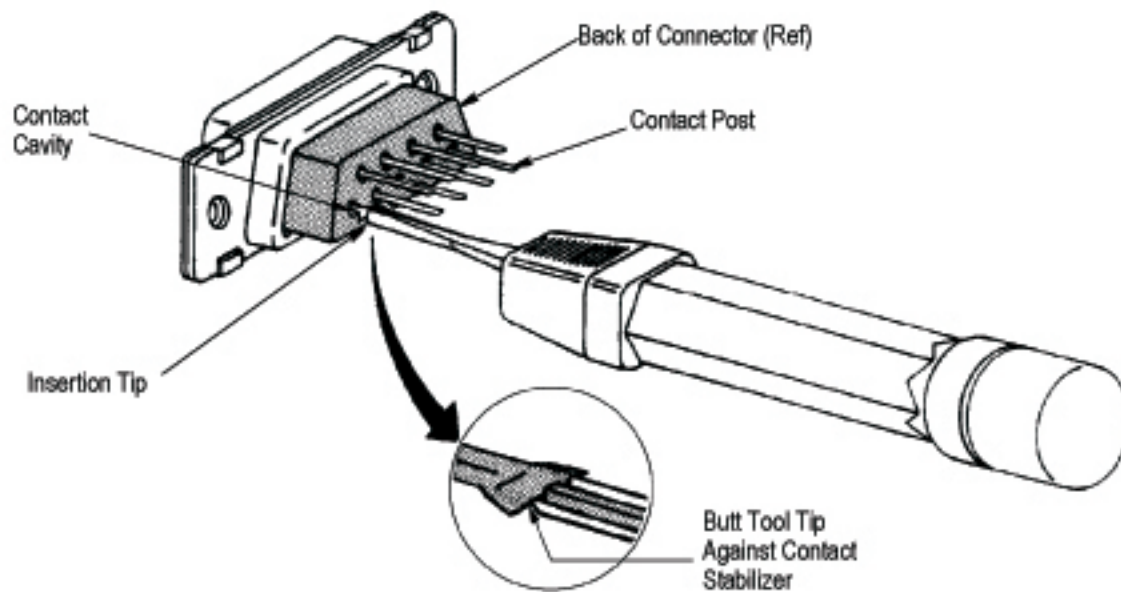

Figure 5
#### 4.3. Inserting A Posted Contact (Figure 5)
2. Position the tip over the contact post. Move the tool along the post until the tip butts against the contact stabilizer. Align the tip on the stabilizer as shown in Figure 5.